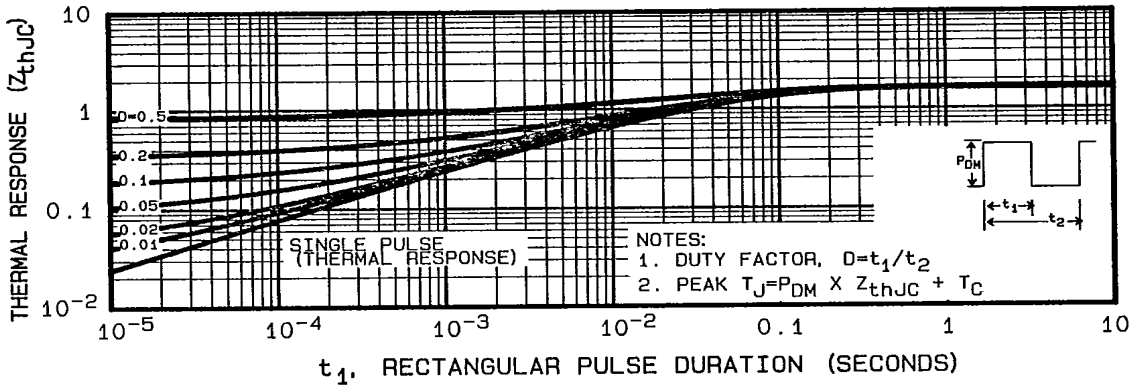

Fig. 5 — Maximum Effective Transient Thermal Impedance, Junction-to-Case Vs. Pulse Duration
- ① $T_J = 25^\circ\text{C}$ to 150°C
- ② Repetitive Rating :Pulse width limited by max. junction teperature. See Transient Thermal Impedance Curve (Fig.5).
- ③ @ $V_{ds} = -25V, T_J = 25^\circ\text{C}, L = 100\mu H, R_G = 25\Omega$.
- ④ Pulse Test : Pulse width $\leq 300\text{ms}$, Duty Cycle $\leq 2\%$.